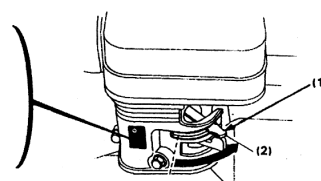

Fig. 14 (1) Choke lever
- 6) As the engine warms up, gradually open the choke. (Fig. 14)